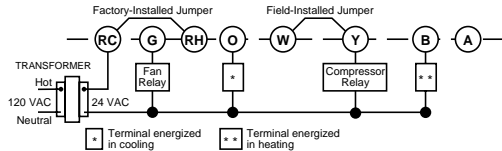

Figure 4. Typical wiring for single transformer, single stage heat pump system
- **Electric heat or single stage heat pump systems:** 1F56-306 energizes the fan on call for heat. Other thermostats are configured from the factory to operate a heat/cool, fossil fuel (gas, oil, etc.) forced air system. This is correct for any system that DOES NOT require the thermostat to energize the fan on a call for heat. If your system is an electric heat or heat-pump system that REQUIRES the thermostat to turn on the fan on a call for heat, remove the yellow factory-installed jumper wire from the **Y** terminal and connect it to the **A** terminal. This will allow the thermostat to energize the fan immediately on a call for heat. If you are unsure if the heating system requires the thermostat to control the fan, contact a qualified heating and air conditioning service person. For single stage heat pump applications (no auxiliary heat), install a short jumper wire (not included) across terminals **W** and **Y**. If the system has a reversing valve connection energized in Cooling, attach it to **O**. If the system has a reversing valve connection energized in Heating, attach it to **B** (see Fig. 4). This thermostat will not provide multi-stage heating or cooling.